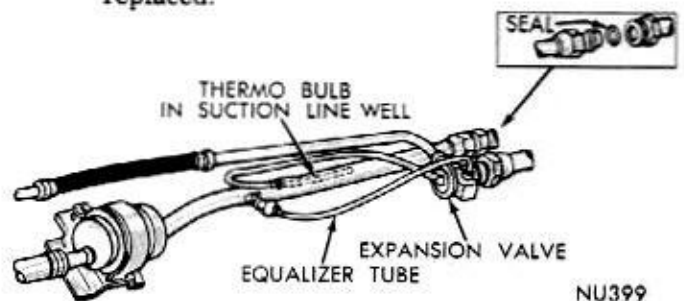

Fig. 7—Expansion Valve Details
- (b) Make sure sensing tubes of the expansion valve are not damaged. Replace any expansion valve that has broken or damaged tube. Be sure sensing tube is properly inserted in its well in the suction line. (Fig. 7).
(2) Test Conditions for all Requirements Except 3(d)
(3) Requirements.